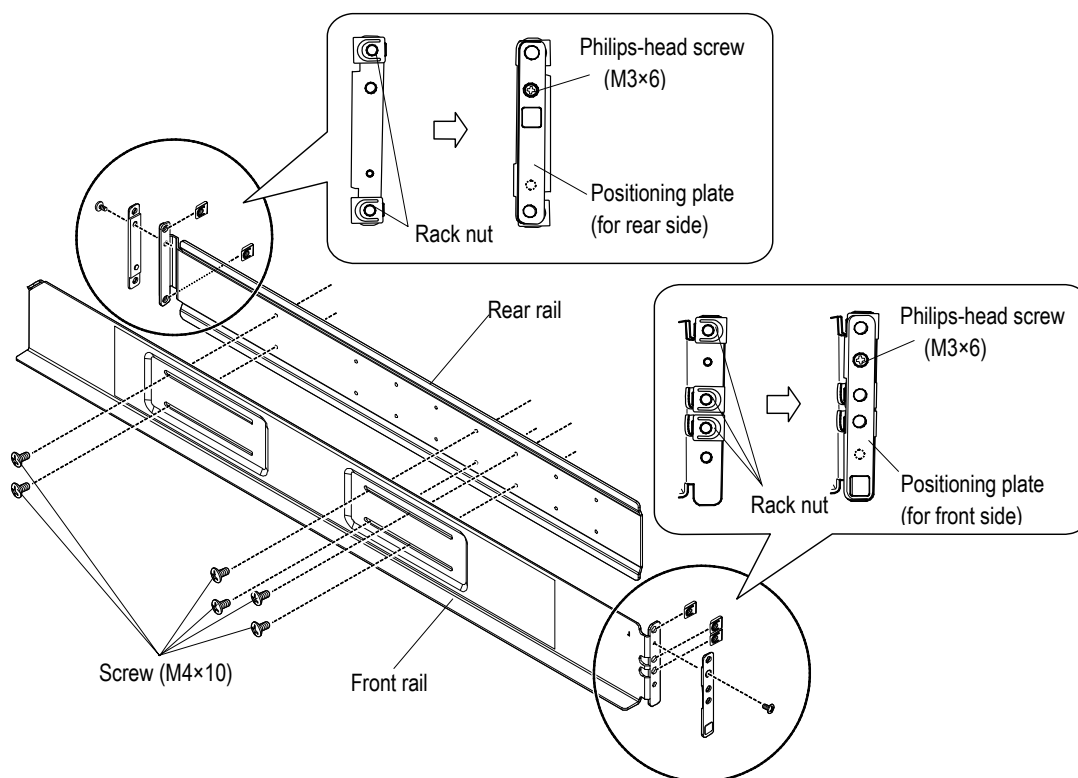

Figure 2.2.20 Installing Rack Rails (Square Hole) for Controller Box (3U)-1
• Rear rails have no distinction between (R) and (L).
- (i) Install three rack nuts in the front rail (R) (See Figure 2.2.20).
- (ii) Attach the positioning plate (for front side) to the front rail (R), and then fasten it with one Philips-head screw (M3×6).
- (iii) Install two rack nuts in the rear rail (See Figure 2.2.20).
- (v) Fix the front rail (R) and the rear rail temporarily with six screws (M4×10) (See Figure 2.2.20).